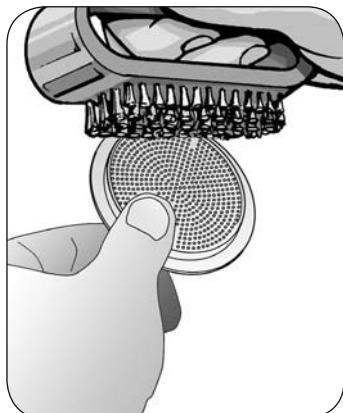

Fig. 6
Check that the holes of the disc filter are not clogged and if so, clean them with a small brush (Fig. 6).
| | The exit holes of the disc filter (D) are clogged. | Turn off the machine. Unplug it from the socket-outlet. Use gloves or rags. Wait for the machine to cool down. Unscrew the boiler from the carafe. Remove the filter from the carafe. Clean the clogged disc filter (Fig. 6) holes using using a small brush or pin. |
| The coffee is not supplied or flows too slowly. | The exit holes of the disc filter (D) are clogged. | Turn off the machine. Unplug it from the socket-outlet. Use gloves or rags. Wait for the machine to cool down. Unscrew the boiler from the carafe. Remove the filter from the carafe. Clean the clogged disc filter (Fig. 6) holes using using a small brush or pin. |